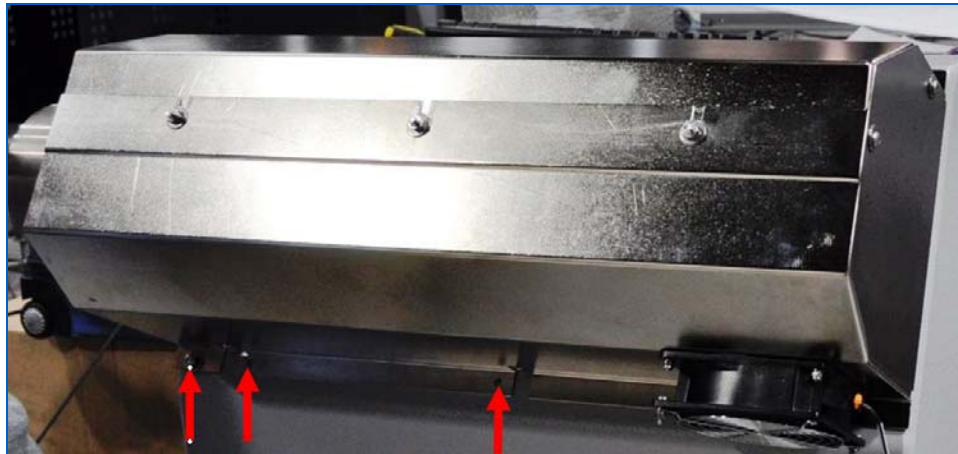
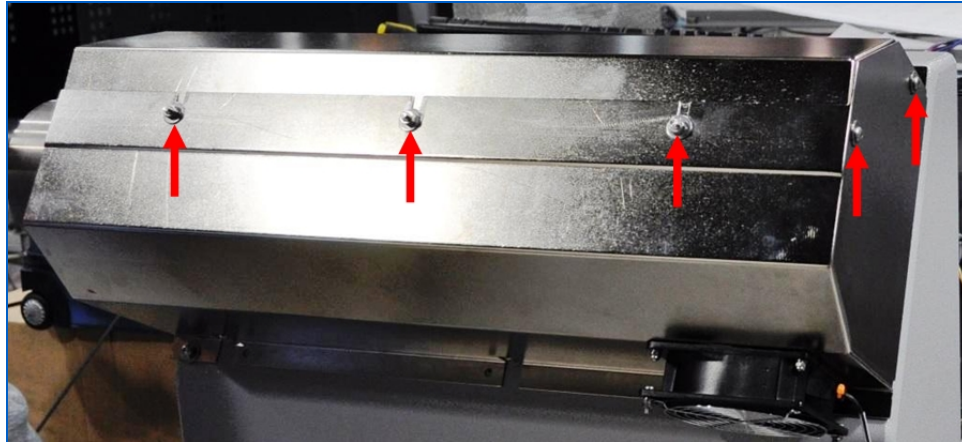
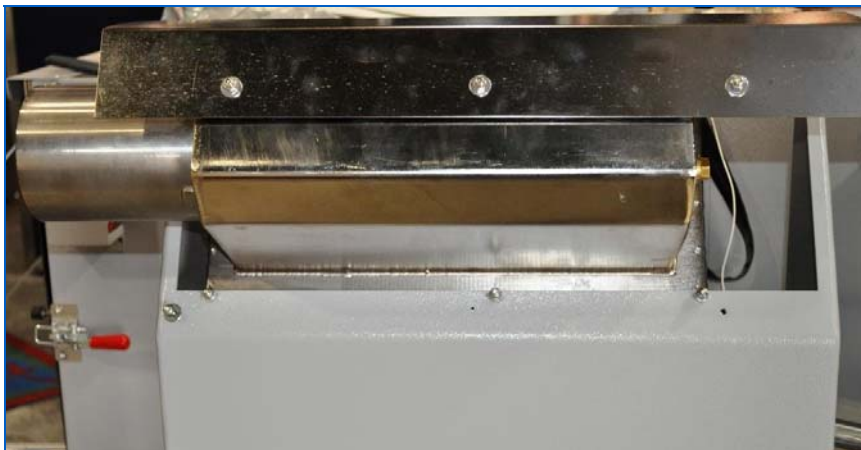

Figure 260: Generator Cowling and Lower Mounting Screws
Figure 261: Bolts Joining Top and Bottom Cowling
Figure 262: Top Half of the Generator Cowling
2. Figure 260 shows the generator without its panels, but with its protective cowling still in place. Note the mounting screws pointed out by the red arrows. The generator's protective cowling actually consists of two pieces; one top, one bottom.
3. To remove the cowling, remove the lower mounting screws (Figure 260), then the two screws on the right end of the bottom cowling (Figure 261). Finally, loosen the nuts on the three bolts joining the top and bottom cowling. The bottom cowling should slide easily out and away. This will leave the top half of the cowling as shown in Figure 262.